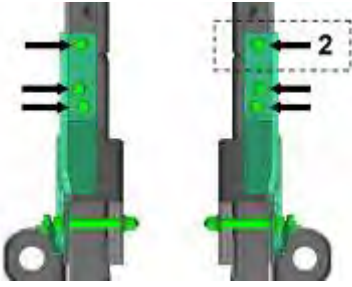

Figure 15 - Driver Side Temporary Installation
1. Remove the following components as per the service manual (see Figure 15):
2. Remove lower half of body mount #4 from both driver and passenger side. See Figures 15 and 16.
6. Temporarily install both reinforcement brackets using the original lower link mounting nuts, "C" clamps and new studs and nuts. See Figures 15 and 16.